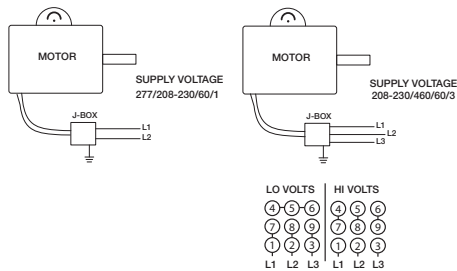

Figure 7 — Typical Wiring Diagram
2. Where plug is not provided, connect power in accordance with the NEC and all local codes. Refer to Figure 7 for the wiring diagrams.